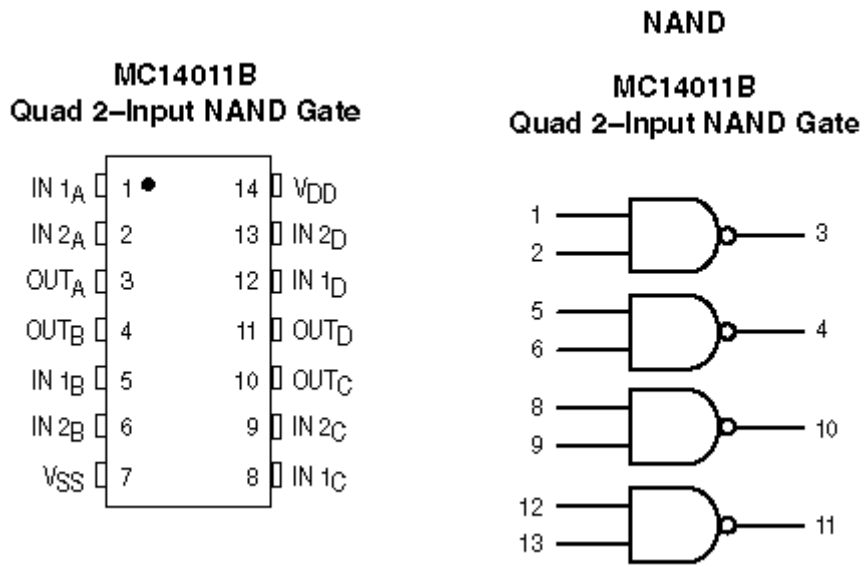
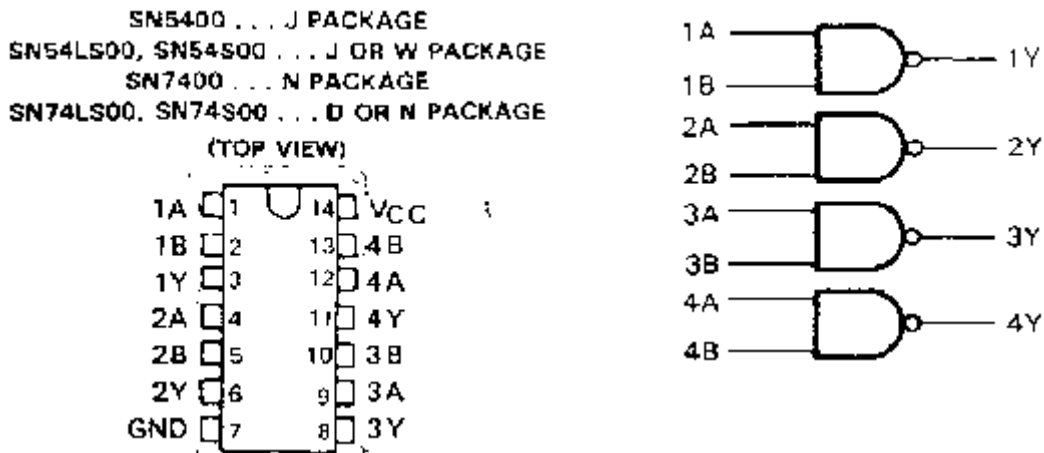
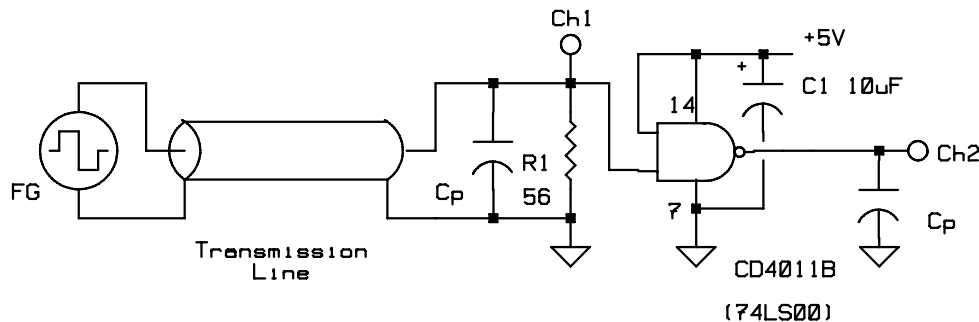

Fig. 1 Top view and pin-outs for MC14011 (CD4011) quad-NAND gate.
Fig. 2 Top view and pin-outs for SN74LS00 quad-NAND gate.
Fig. 3 Measuring propagation delay and rise/fall times. C_p is the scope probe capacitance.
Connect the circuit of Fig. 3 using the CMOS logic gate (MC14011 or CD4011). Consult Fig. 1 for the correct pin numbers. Note that the 3-foot coaxial cable from the function generator to the circuit is shown explicitly: this cable is a 50- Ω transmission line. R1 (56 Ω) is included in the circuit to improve the termination of this cable and reduce the reflection of the steps in the FG output voltage¹. Set the power supply for 5 V (4.95 - 5.05 V). Bypass capacitor C1 must be connected directly between pin 7 (GND or V_{SS}) and pin 14 (V_{CC} or V_{DD}) of the integrated circuit package. Connect channels 1 and 2 of the scope to the locations indicated. The capacitors C_p represent the scope probe capacitances. For the HP 54600, C_p is 16 pF.
4. Re-connect Fig. 3 using the TTL logic gate ('74LS00). Consult Fig. 2 for the correct pin numbers: the CMOS and TTL devices have different pin-outs. Be sure to reset the power supply to 5 V, and replace R1 in the circuit. Measure t_r of the input and output waveforms. Measure t_{PLH} and t_{PHL} . The propagation delays for the LS-TTL device should be measured at the 1.3-V crossings, not the mid-crossings of the input and output waveforms. You may do this semi-automatically by using the cursors to get time readouts at these points.